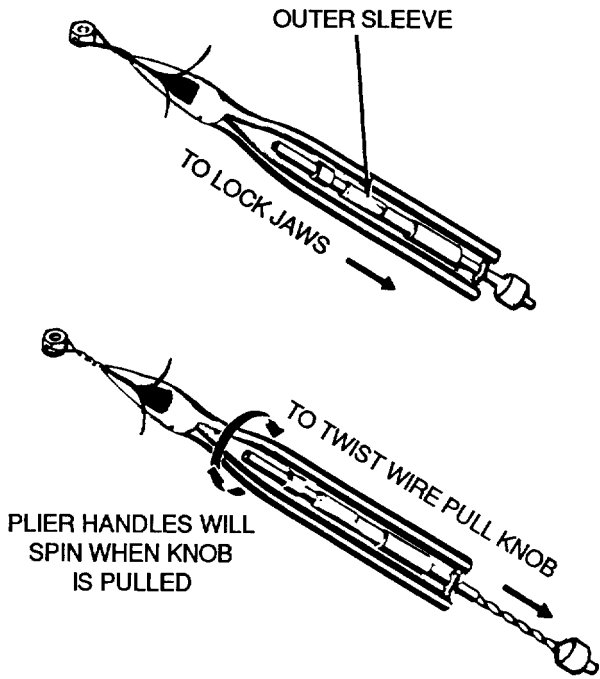

Figure 4. Twisting with Wire Twister Pliers
i. When using wire twister pliers, secure wire in jaws of pliers by sliding the outer sleeve down to lock handles (Figure 4). To prevent mutilation of the twisted section of the wire, grasp the wire with pliers at the end of the wire and not in the middle.